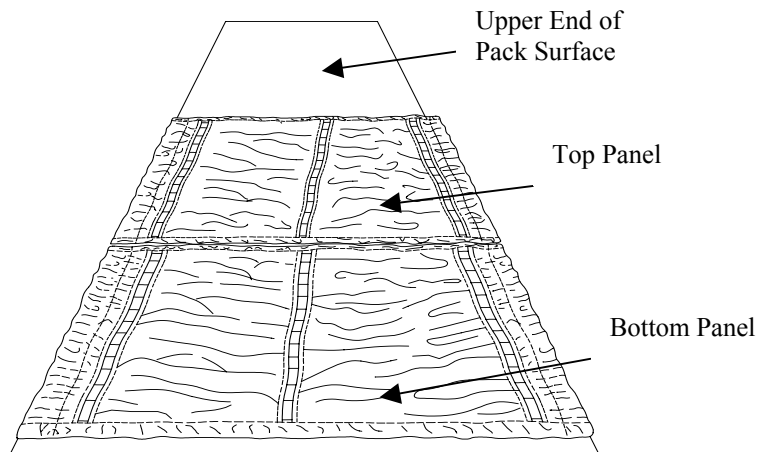

Figure 3. Layout of Two Panels for Stowing 140 Foot Three Loop Extraction Line.
- a. Position Extraction Line Panels on a pack table or suitable surface with stow loops facing up and running lengthwise (figure 3).